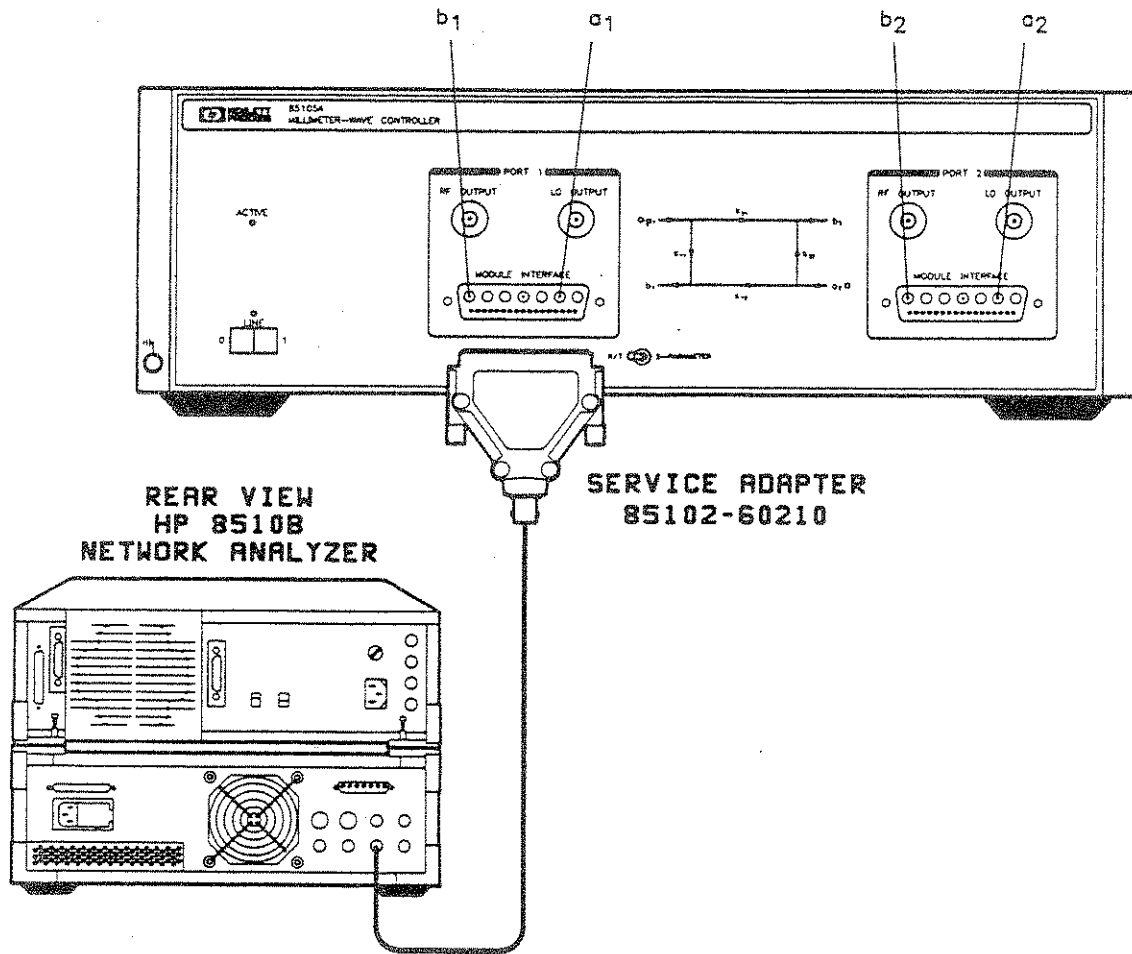

Figure 6-20. IF Inputs
2. A 20 MHz signal is routed from the 85102 thru the service adapter and injected into the a1 and b1 inputs of the module interface, Figure 6-20. Check the a1 and b1 user parameters for port 1. The traces should be a flat lines approximately -5 dB across the band as displayed on the HP 8510 CRT.